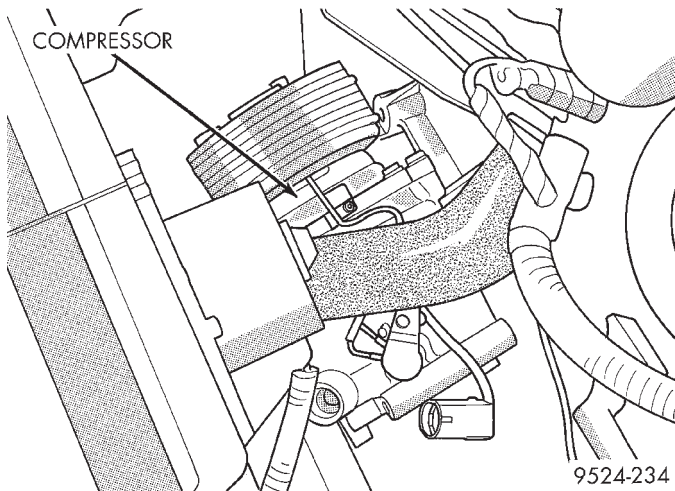

Fig. 20 Compressor Removal
- (7) Remove compressor (Fig. 20).